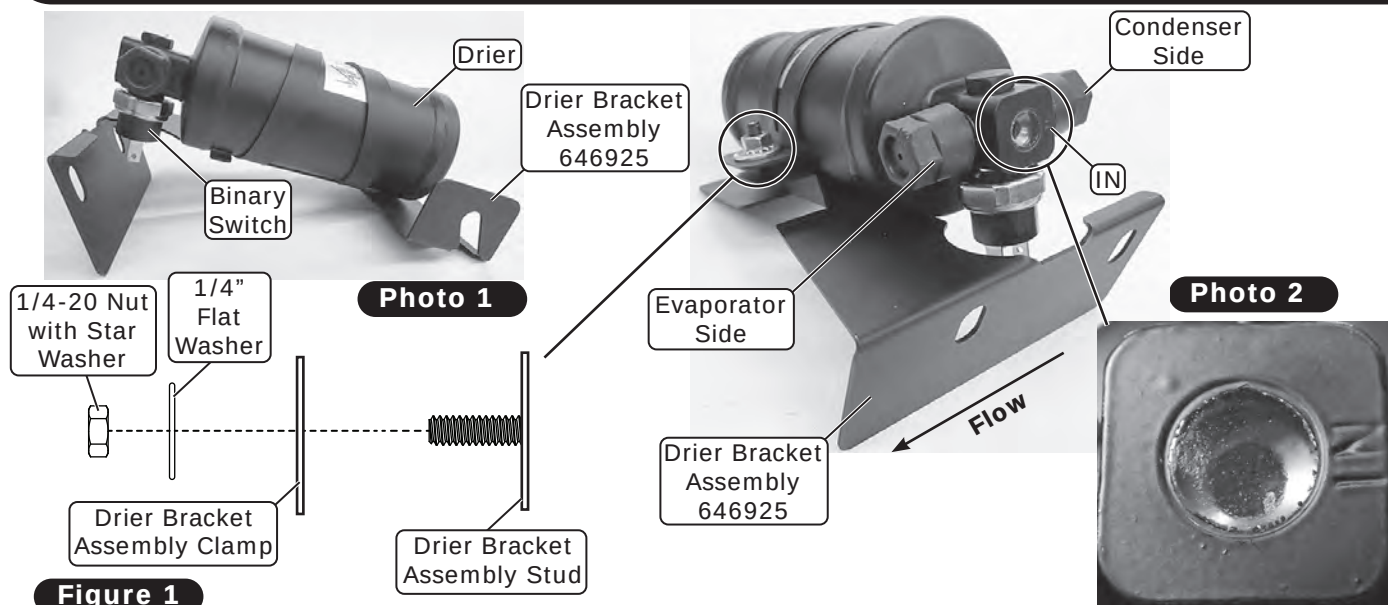

Figure 1
3. Secure the drier into the drier bracket assembly using a 1/4" flat washer and 1/4-20 nut with star washer (See Photo 2 and Figure 1, below). **NOTE: Do not fully tighten hardware until the #6 condenser/drier hardline has been installed.**